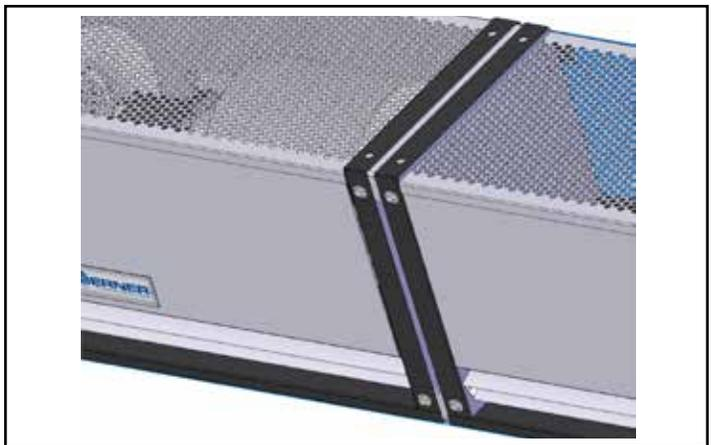

Figure 11 - Tandem Mounting
- D. Slide the end plate of the next unit over the brackets installed in Step C and attach using (4) additional M12 bolts as shown in **Figure 11**.